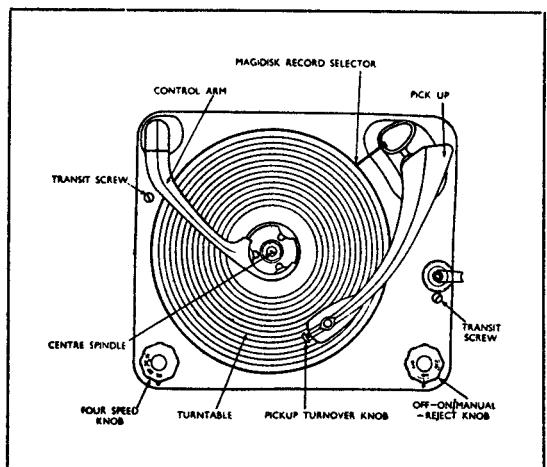

FIGURE 7.
No oil should be used on the Magidisk Record Selector Bearing (see Figure 7).
(2) To Remove Control Arm Assembly (Item 8M2A) (See Figure 7)